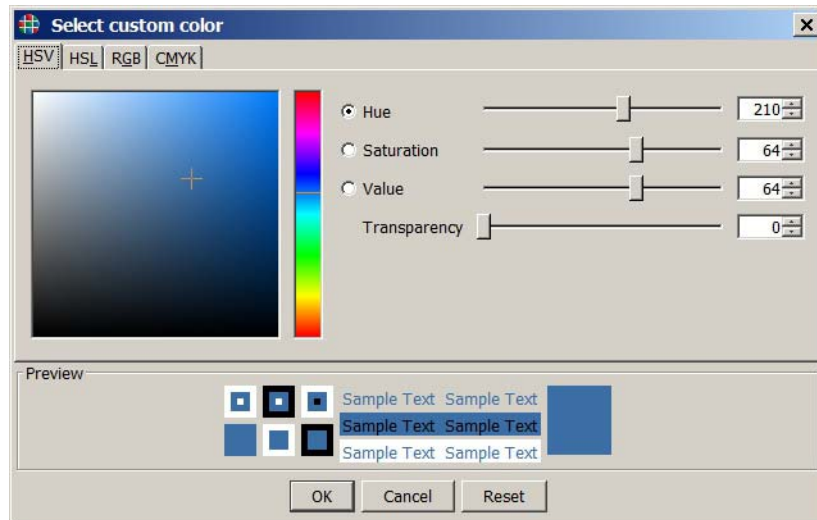

Figure 3-14 Custom Color Selection
3. Select the clock color from the drop-down list. See Figure 3-14 for custom color selection.